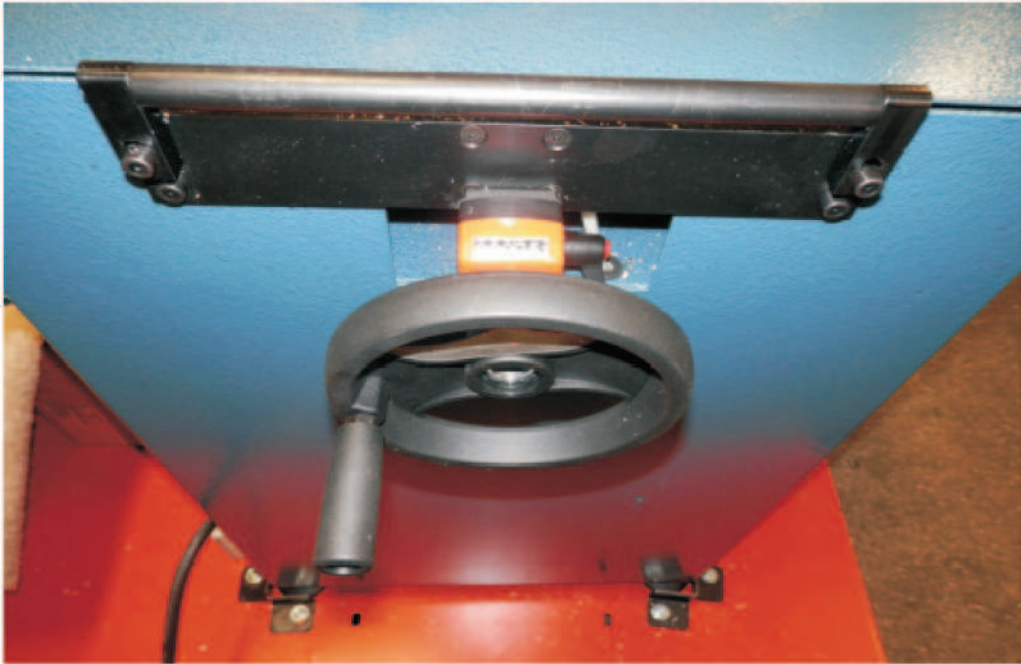

FIGURE 2
- 4. Close the hood and place the machine in the Manual Mode. Set your part length with the length hand wheel on the left side of the saw (Figure 2). Place the shuttle selector switch in the 1 or 2 hitch position. Start the automatic operation and let the machine cut one or two parts; then, press the stop switch. Check the length of the parts. If the length is correct, press the Auto Start button again and continue the operation. NOTE: Every time the Auto Stop button is depressed, the saw will make one trim cut when the automatic cycle is started again. It is best to press the Stop button after the shuttle has advanced and before the part is cut. This way, when you press the Auto Start button, the trim cut will be a part.**